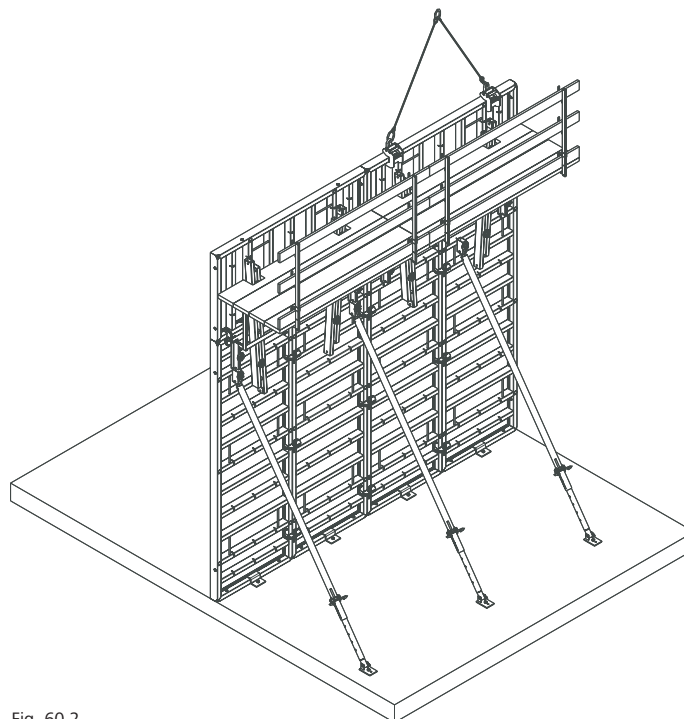

Fig. 60.2
5. Proceed with setting the other gangs along the first side (Fig. 60.2).